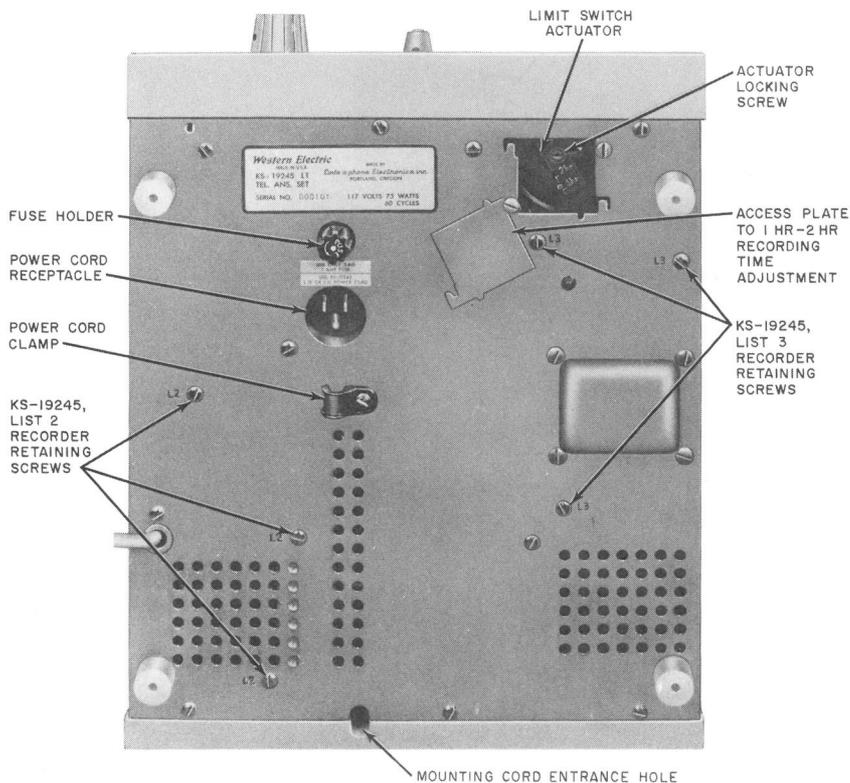
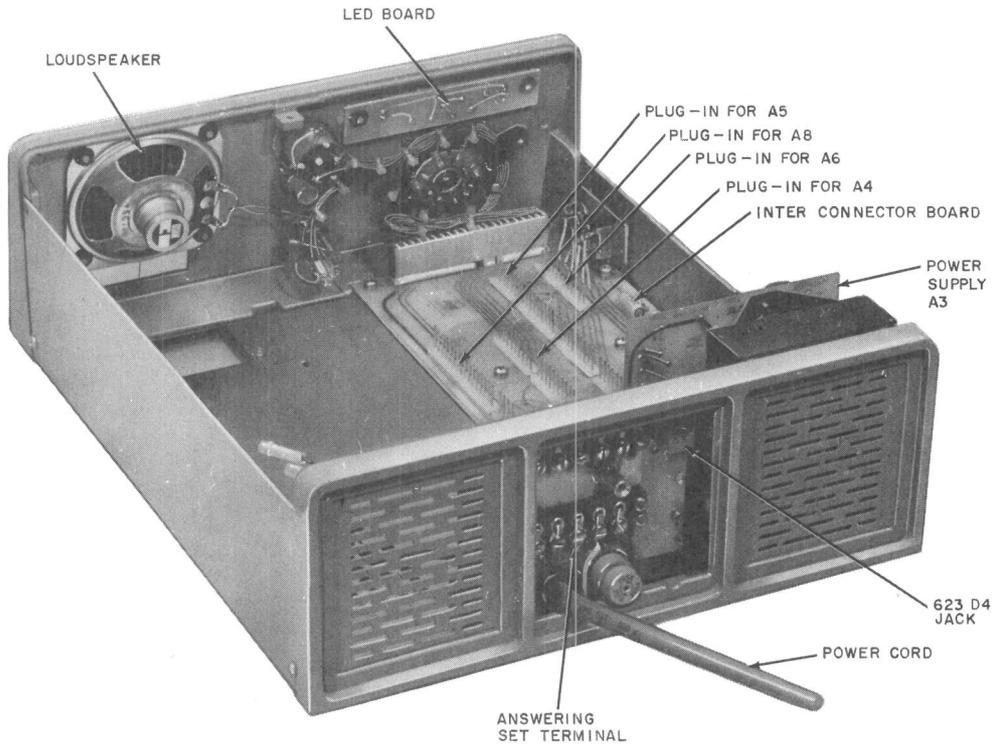
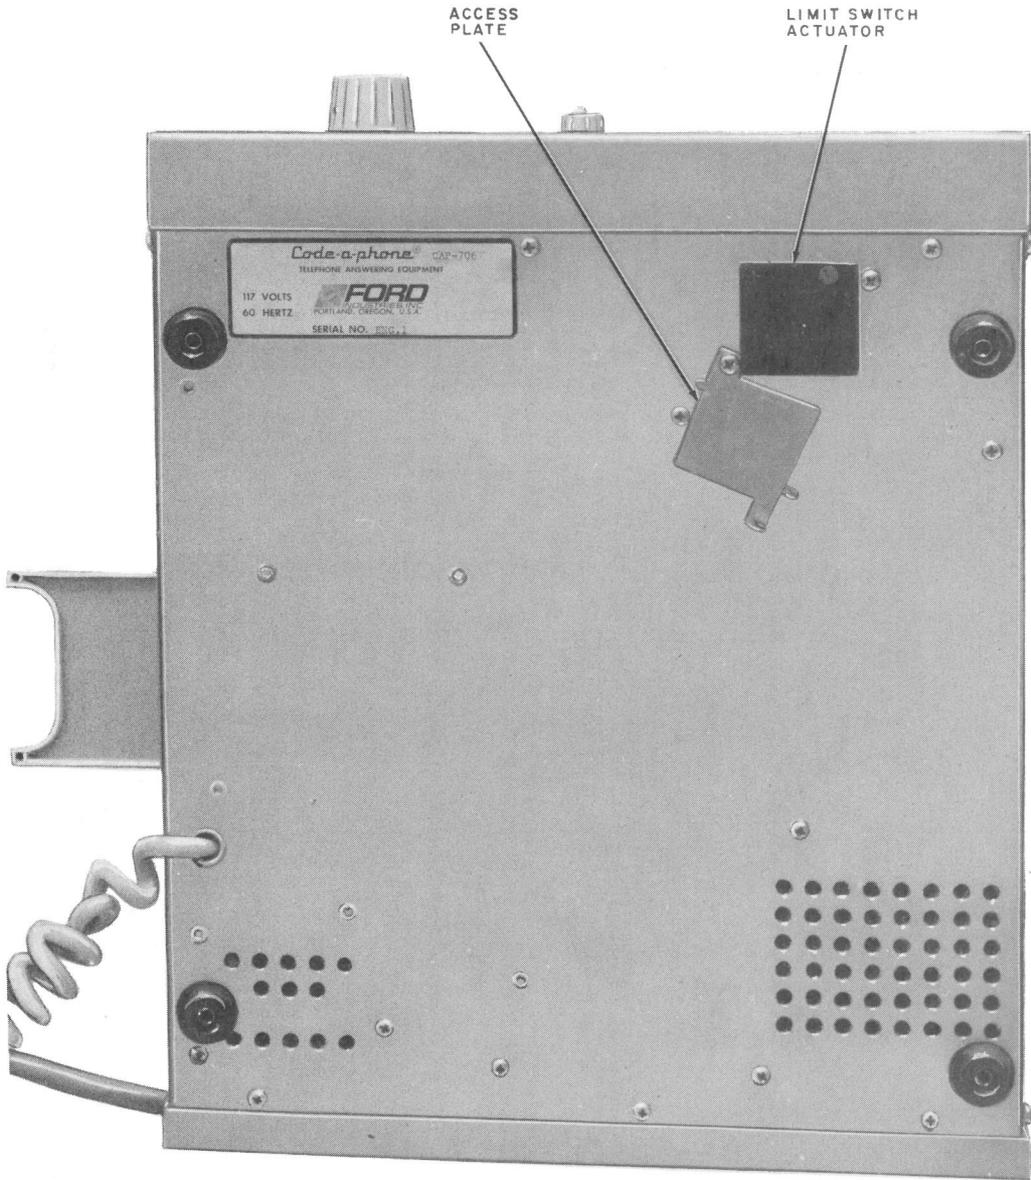
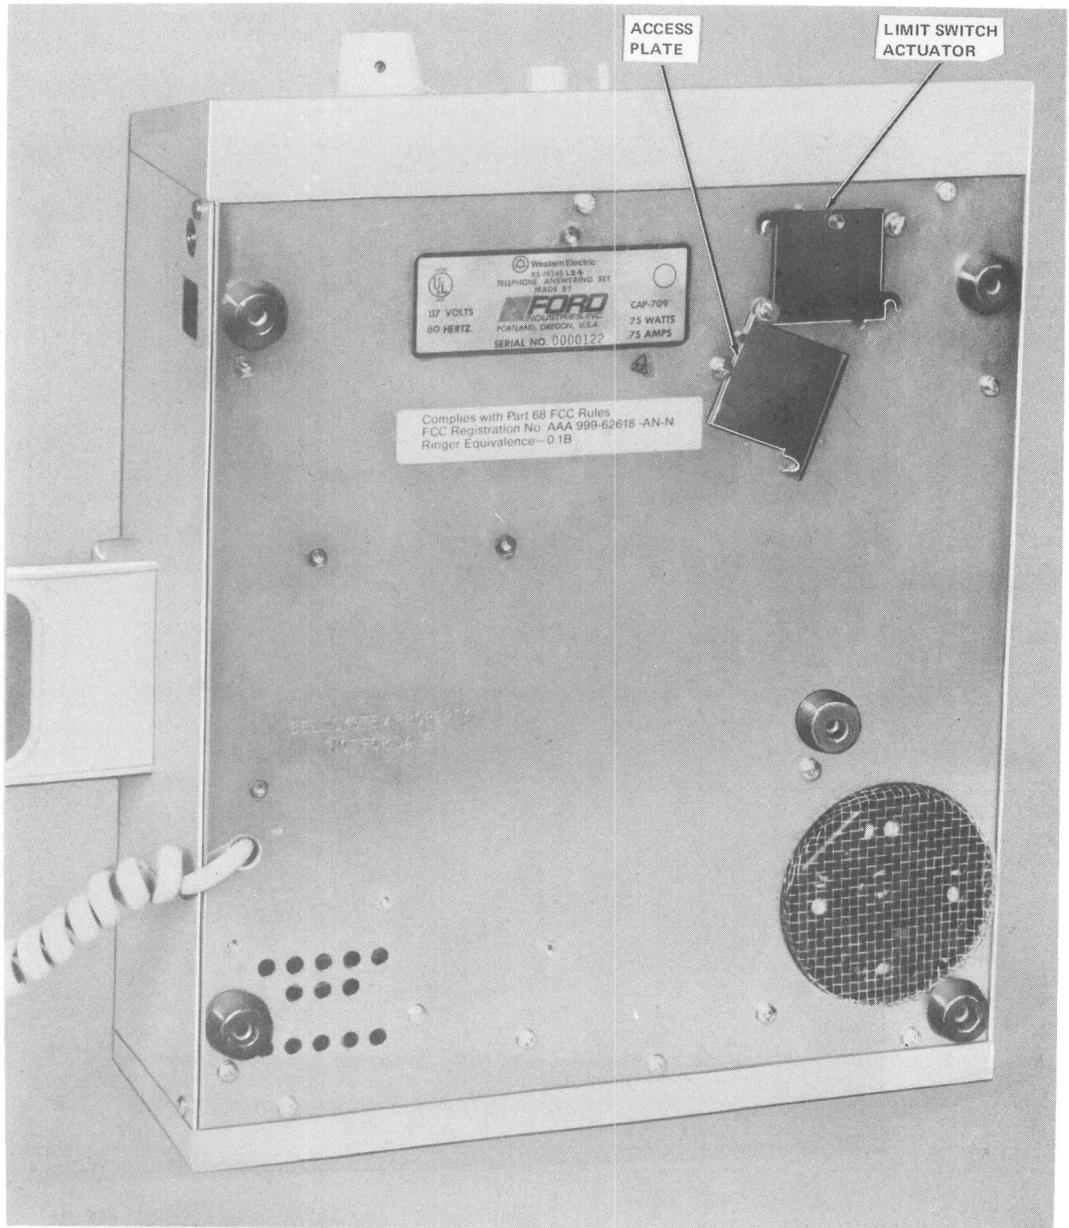

Fig. 20—KS-19245, List 1 (MD) Telephone Set—Bottom View
Fig. 21—KS-19245, List 13 (MD) or List 24 Telephone Set—Cover and Components Removed
Fig. 22—KS-19245, List 13 (MD) Telephone Answering Set—Bottom View
Fig. 23—KS-19245, List 24 Telephone Answering Set—Bottom View
**5.05 Message Recording Capacity Option:** Adjust message recording capacity (List 1, Fig. 20; List 13, Fig. 22; List 24, Fig. 23).
- (1) Insert plug of power cord into ac outlet.
- (2) Run the set in rewind to obtain an elapsed message indicator dial reading of 0 (set will stop automatically).
- (3) Remove access plate.
- (4) Adjust limit switch actuator (List 1 set only, Fig. 20).
- (5) Adjust limit switch actuator (List 13 set, Fig. 22; List 24 set, Fig. 23) by sliding actuator to 2hr position. A detent will lock actuator in position (Fig. 22).
- (6) Replace access plate.
- (d) A List 11 power cord (shipped loose) connects to receptacle on List 1 set only (Fig. 20). Lists 13 and 24 set power cord is wired to set (Fig. 21).
- (a) For List 1 only, insert suitable mounting cord through hole provided in base of answering set (Fig. 20) and make connections for type of service required as shown in Table A.